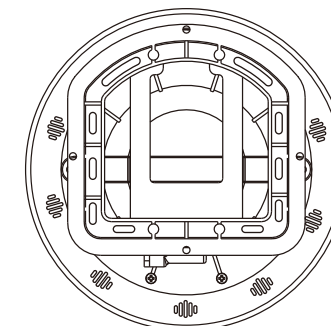

Figure 2.
- Connect conduit to midst of Mounting Spacer (left of Bracket), see Figure 2.